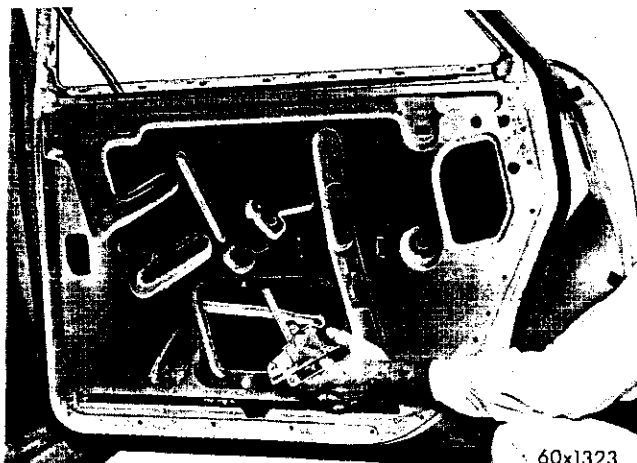

Fig. 71—Removing the Door Lock Assembly
- (1) Remove the door inside hardware and trim and disconnect the outside handle control links.
- (2) Remove the glass run felt channel.
- (3) Starting at the top end of the division bar and working rearward pull the channel down and out of its retaining channel all the way to the glass at the lock face of the door then pull straight up so the channel will slide out from between the glass and the lower channel.
- (4) If the glass fits tight, loosen the glass guide channel extension (lower extension of division bar) at its bottom attachment to allow the glass to move forward.
- (5) With the felt channel removed pull up the metal that retains the felt channel below the window opening.
- (6) Carefully raise the glass, by means of the regulator crank, being sure the glass follows in the channel from which the felt channel was removed.
- (7) With the glass in this position, disconnect the outside handle link at the lock, and the key cylinder link at the lock.
- (8) Remove the two screws attaching the remote control assembly to the door inner panel and the four screws holding the lock to the door shut face.
- (9) Slide the lock out of the hole in shut face into the door and rotate the lock to disconnect the remote control link at the lock. Remove both lock and remote control from the door (Fig. 71).